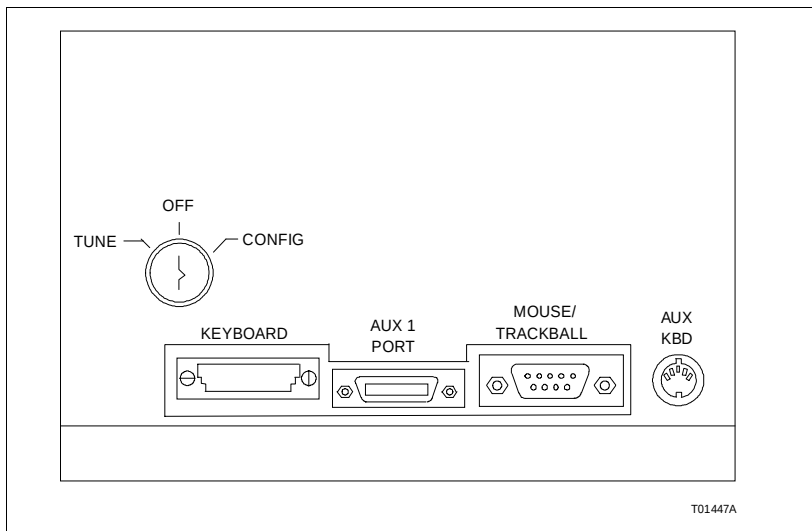

Figure PR13-1. Keyboard Interface Assembly
- ☐ 1. Plug the Mylar (operator) keyboard into the port marked KEYBOARD on the keyboard interface assembly (Fig. PR13-1).